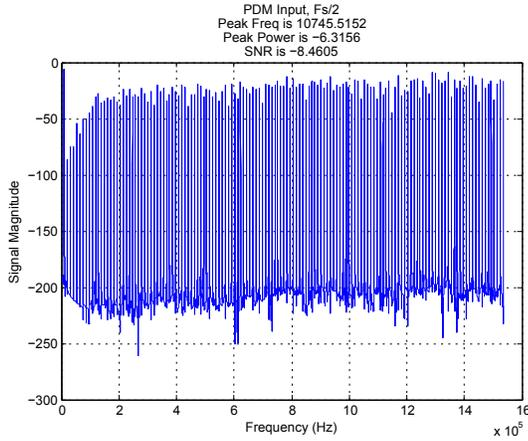
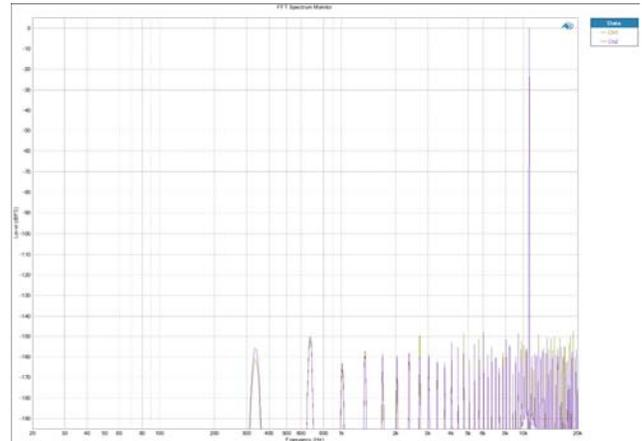
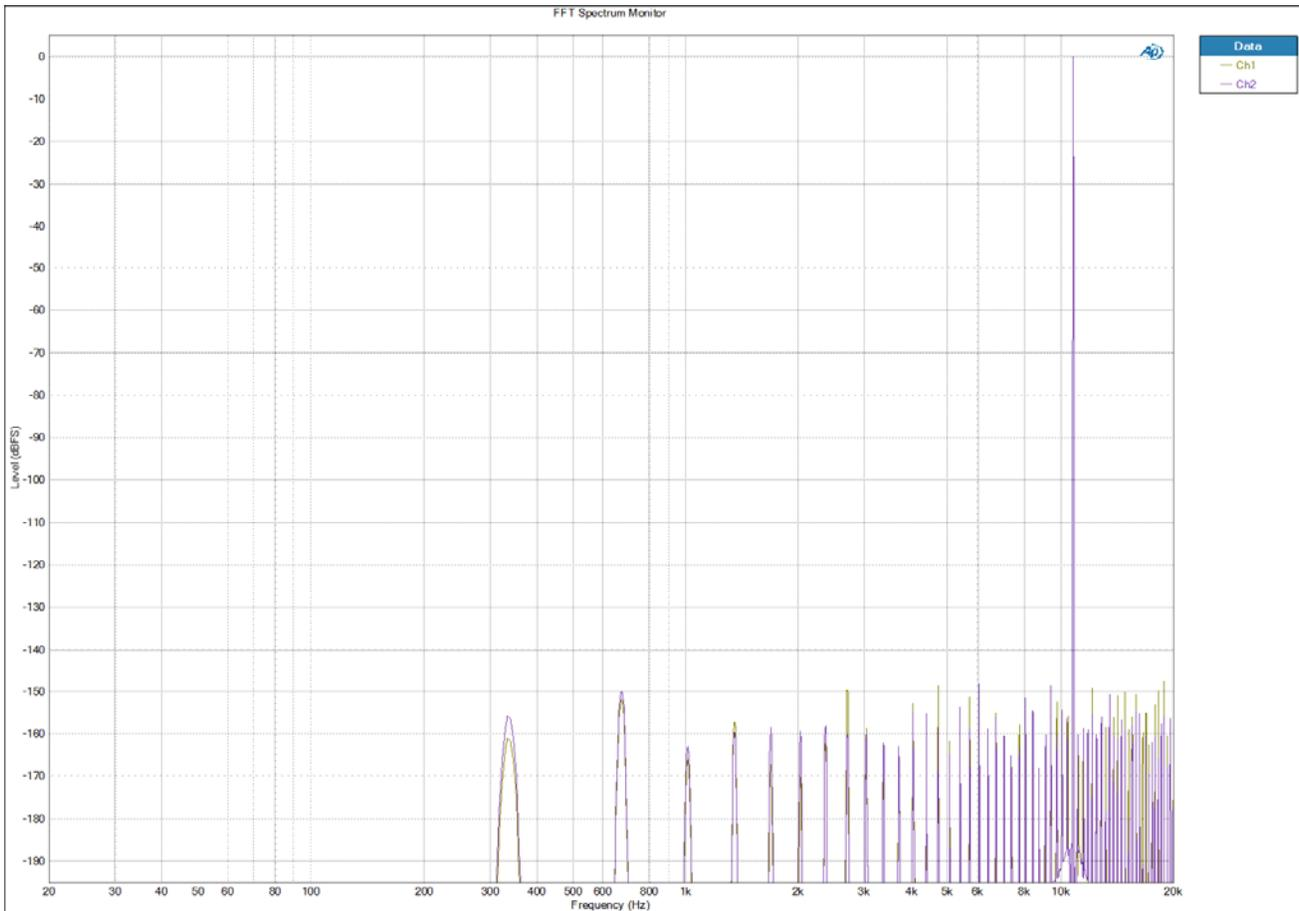

Figure 17. Specialized PDM test signal carrying a 10.745kHz sine wave
Figure 18. FFT, Fs = 48kHz, 0dBFS, 10.745kHz sine wave, Converted Linear PCM I2S Output from TSDP18xx
Figure 19. Zoom In of Figure 18
DVDD_IO = 1.8 V, T_A = 25°C, PDM_CLK Output = 3.072 MHz, LRCLK Input = 48 kHz, TDM format, OS Rate = 64x unless otherwise noted. The PDM audio stream used in the Table 4 was generated by the APx525 PDM Module, with a 5th order noise shaper. Measurements are without A-Weighting or AES-17 filter unless otherwise noted. The performance results are limited by the measurement equipment and not the design. Please refer to the SNR / DNR / THD+N Level footnote and corresponding performance plots Figure 17, Figure 18 and Figure 19 as to how this measurement was captured.
1. The > 142dB SNR / DNR / THD+N Level performance number was generated using a generated PDM data source. Please refer to Figure 17, Figure 18, and Figure 19 and the associated Figure text descriptions to learn more about how the PDM data source was generated and also how these measurements were taken.